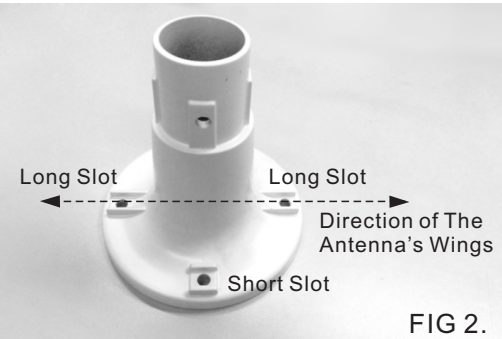

FIG 2.
**Attention:** The direction of the base mount determines the direction of the antenna! There are two types of slots on the base mount, which will help you determine the direction; long and short slots (Refer to FIG.2). The direction of the long slots is the same as that of the antenna's wings. Make sure inside ceiling area is clear to mount the ceiling plate.